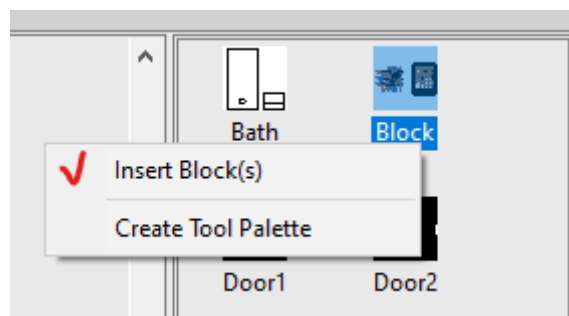

Fig. 61. Insert the block
8.4. In the **Blocks** section select **Block**, right-click on it, and choose the **Insert block(s)** option (fig. 61):